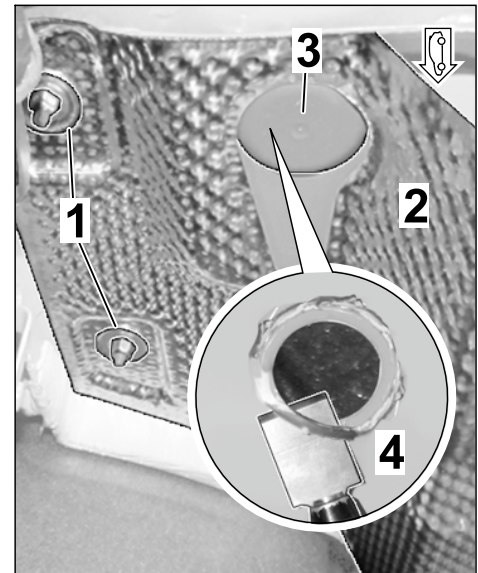

Figure 9
1.3.5 Detach heat shield in the rear muffler area – at the left (⇒ *Figure 9*) and bend it down slightly.
1.3.6 Remove dummy plug on underbody and de-burr using a spatula (⇒ *Figure 9 -inset-*).